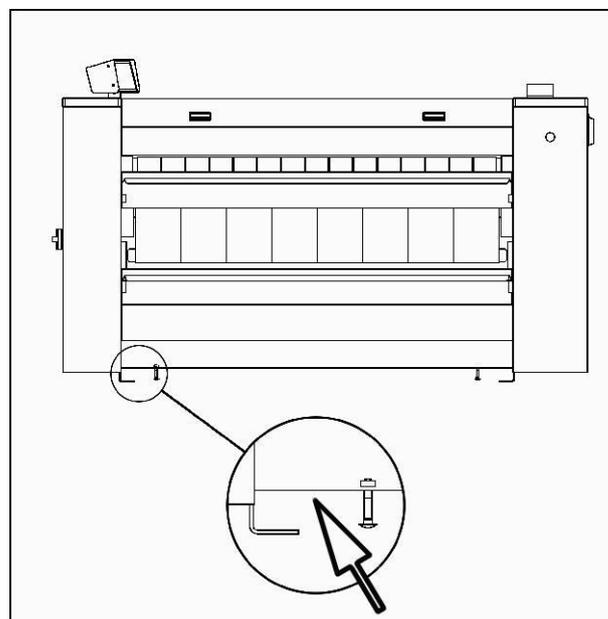

Fig. 2.7
- In models PB32, X13 the bolts securing the machine to the base of the crate need to be used to perform the function of the welded stops. (Fig. 2.7).